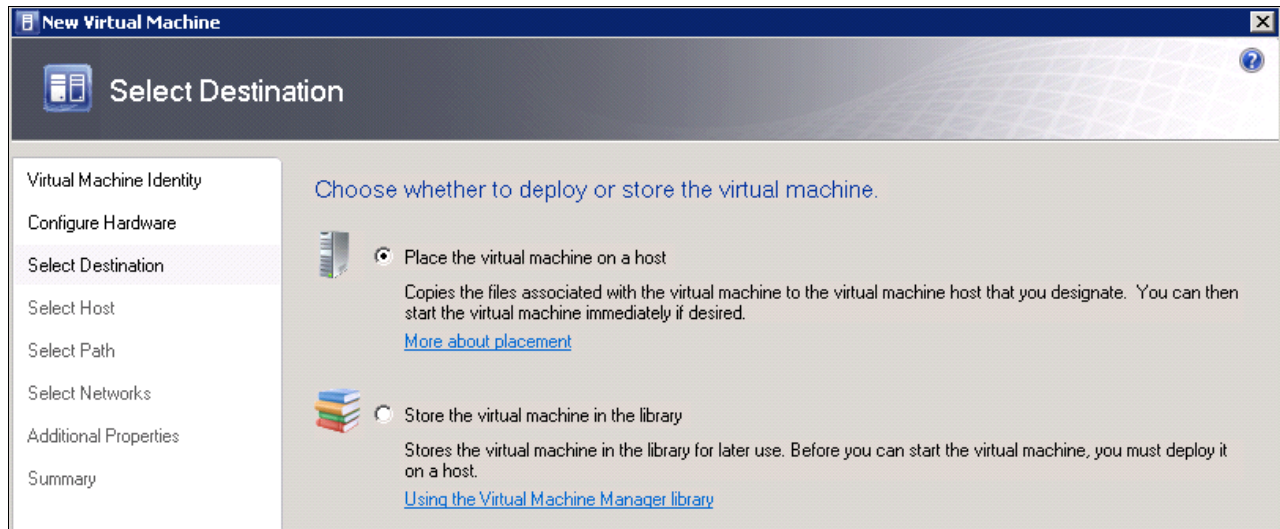

Figure 3-65 SCVMM New Virtual Machine: Select Destination
4. In the Select Destination window, choose the destination server and its storage locations for the virtual machine image files, as shown in Figure 3-65. Click **Next**.